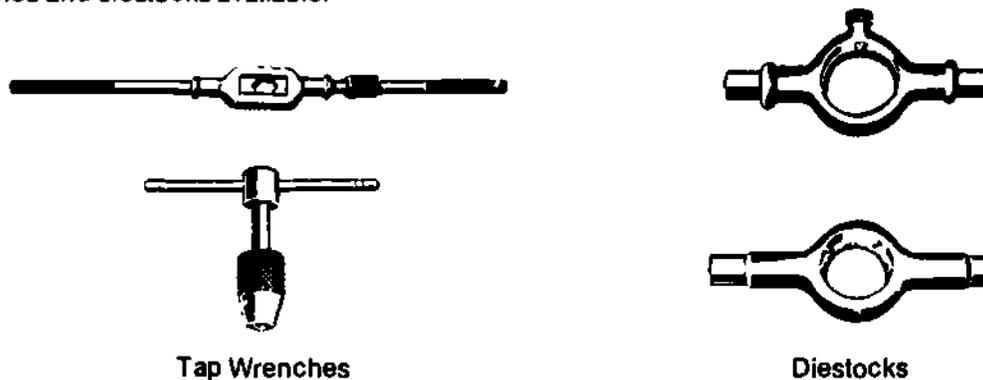

Figure 1-112. Tap Wrenches and Diestocks
h) Figure 1-112 shows a few of the many types of tap wrenches and diestocks available.